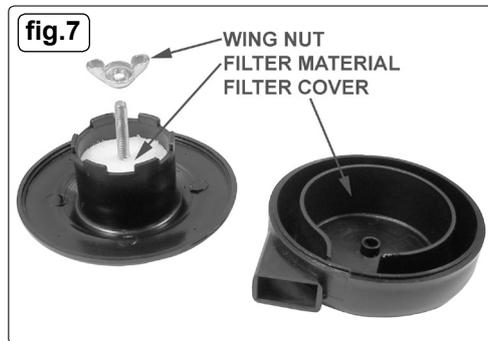

fig.7
- 3.7. Screw the back half of a filter unit into the port openings in each head as shown in (fig.4.A). Place a filter cover over each threaded rod protruding from the back half of the filter and secure each with a wing nut. Refer also to (fig.7).
- b) Remove the filter elements (See fig.7) and clean with compressed air (wear eye protection). **DO NOT** operate the compressor without the filters as foreign bodies or dust could seriously damage the pump.
a) Replace air filter. (See fig.7)